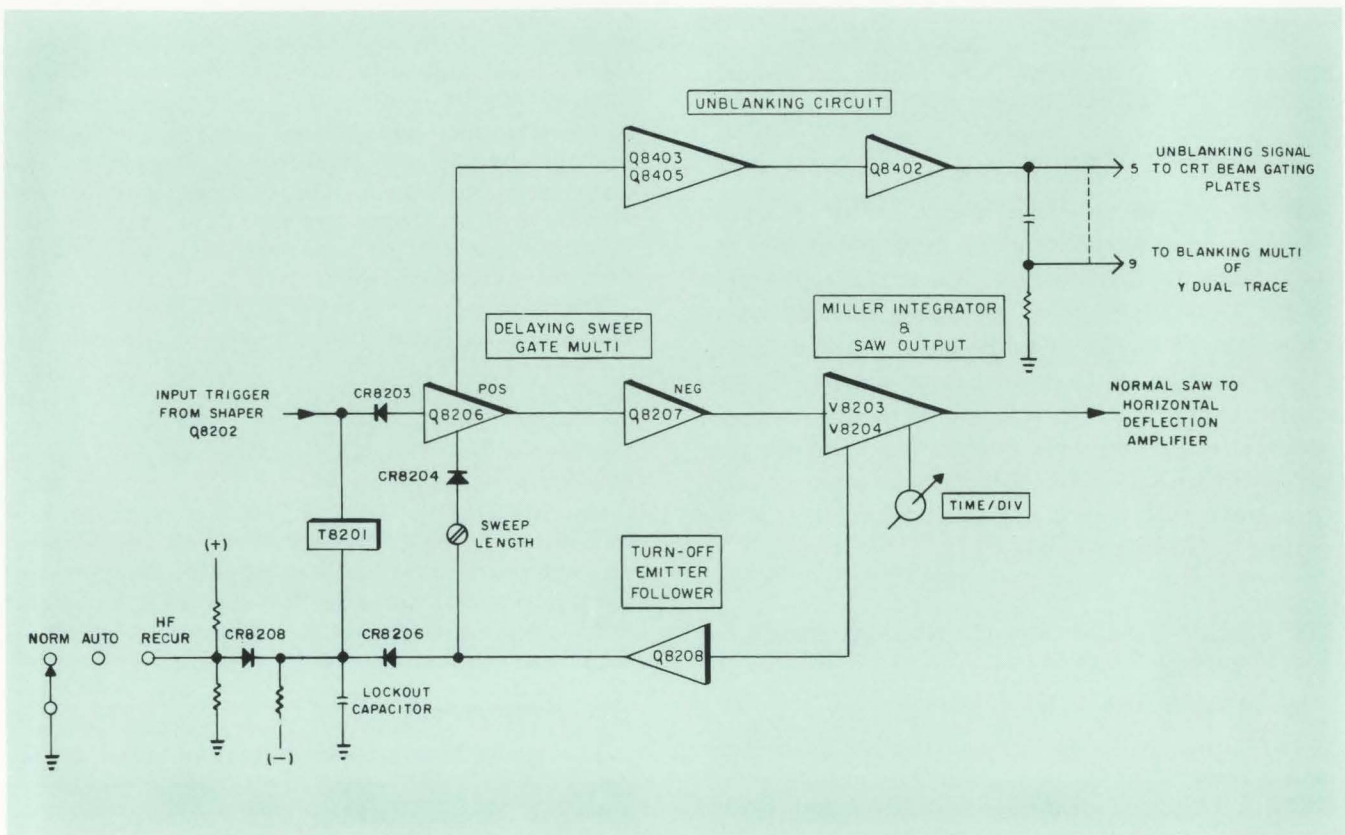

Figure 3-2. Normal Sweep Mode, Functional Block Diagram
- Figure 3-2. Normal Sweep Mode, Functional Block Diagram
### 3-3. CIRCUIT DESCRIPTION OF NORMAL SWEEP (Figures 3-2 and 3-3)